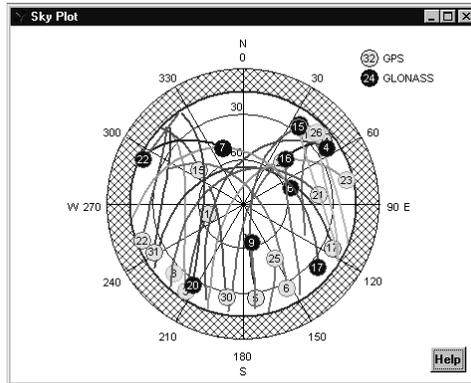

Figure A.11. Sky Plot
1. Select **Sky Plot** from the **View** menu to open the **Sky Plot** display (Figure A.11).